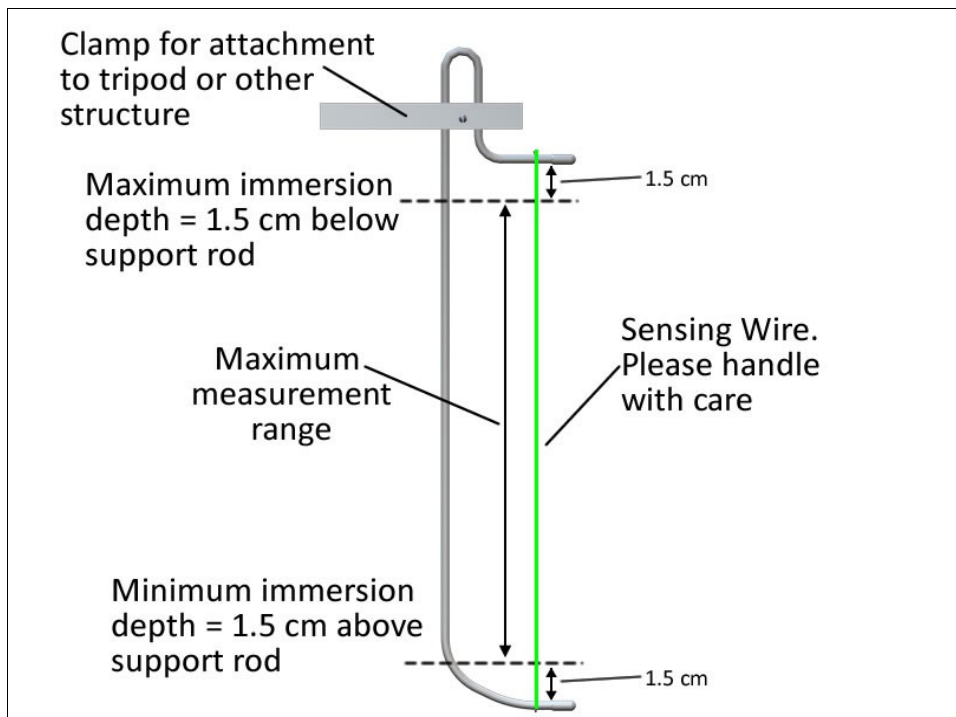

Figure 2-4: Wave Probe Head
CAUTION ! Please ensure that the sensing wire, shown in Figure 2-4, does not come into contact with sharp objects. When not in use, please do not put any weight on the sensing wire or let the wave probe head rest on the sensing wire. Avoid exposing the probe to extreme heat and cold.
For maximum measurement accuracy please do not exceed the maximum and minimum immersion limit recommendations shown in figure 2.4. These limits should not be exceeded during configuration, calibration, and during normal operation. However, if you wish to use a smaller measurement range than the full range of the probe, you can use maximum and minimum levels that fall within the immersion limits shown in figure 2-4 while performing the steps in sections 3. Configuration and 4. Output Range Adjustment.
The AWP-24-2 does not include a stand or tripod. You will require a stand or tripod in order to place the wave probe head in water. The Akamina wave probe head comes with a clamp, shown in Figure 2-4. The clamp can be attached to a tripod or your specific support structure.
The AWP-24-2 wave height gauge must be configured before it can be used. The configuration steps set the minimum automatically and set the maximum by immersing the probe to the maximum depth of the probe that you wish to use or to the maximum depth of the probe as shown in Figure 2-4.
6. Immerse the probe to the maximum depth of water that you wish to measure or to the maximum depth of the probe as shown in Figure 2-4.
1. Immerse the probe to the minimum depth of water that you wish to measure or to the minimum depth of the probe as shown in Figure 2-4.